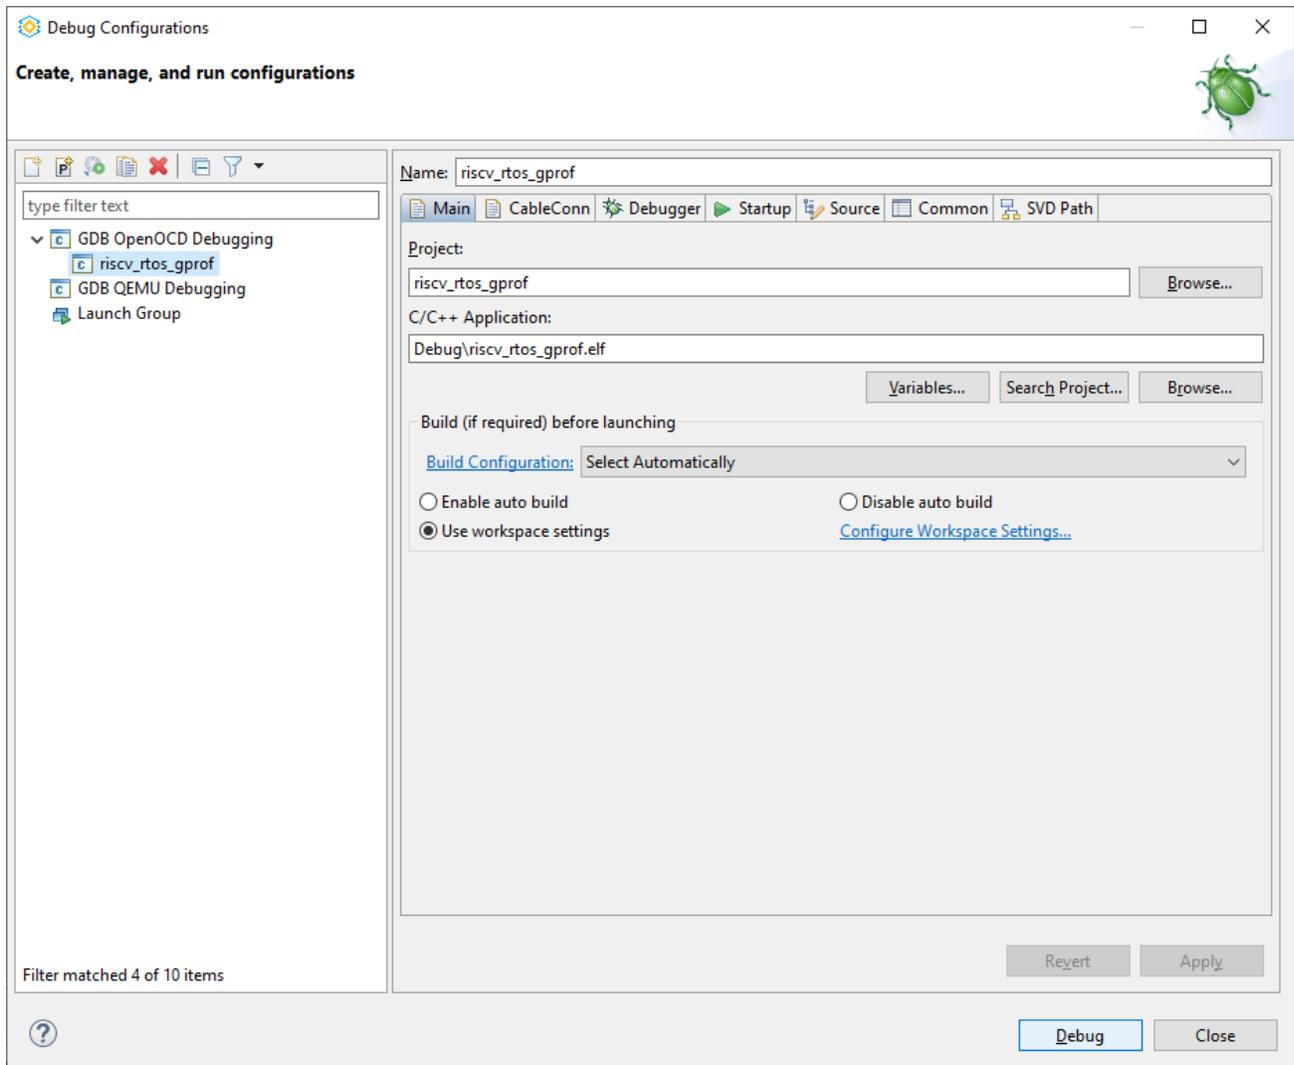

Figure 7.2. Debug Configuration
3. Select riscv\_rtos\_gprof in **GDB OpenOCD Debugging** (Figure 7.2).